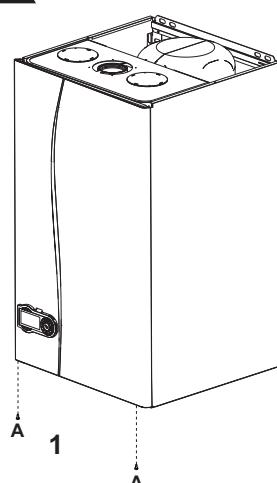

fig. 27 - Opening the casing
- Undo the screws A (see fig. 27).
- Turn the casing (see fig. 27).